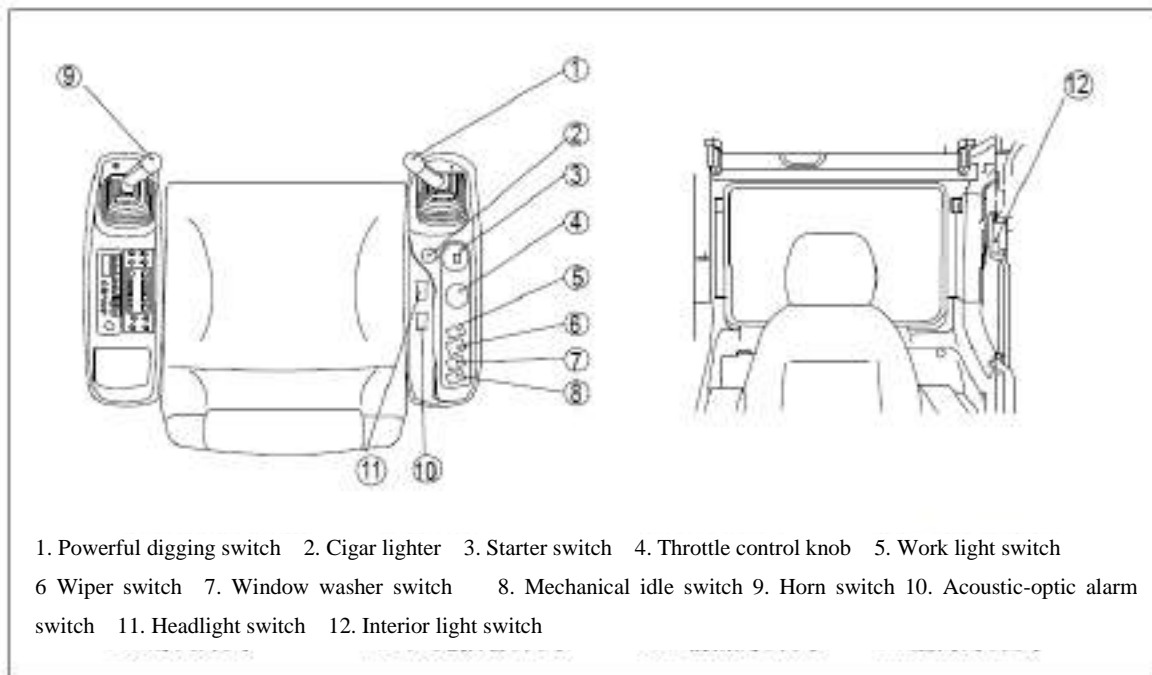
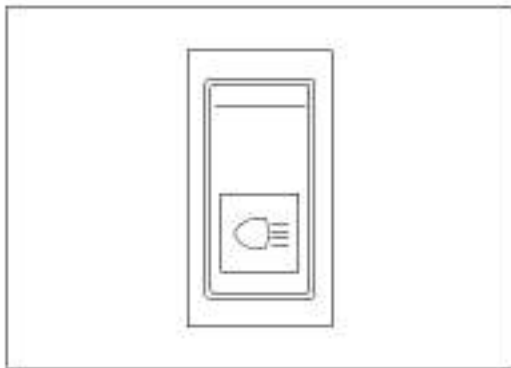
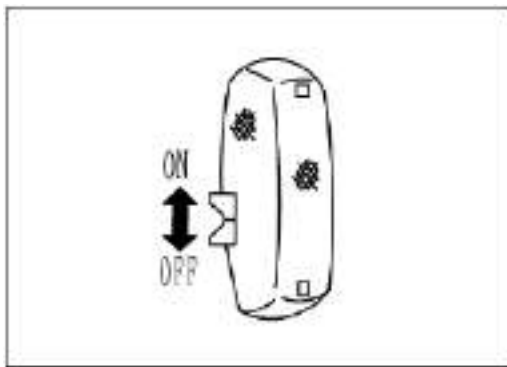

Figure 3-70 Switch location diagram
Figure 3-75 Work light switch
Figure 3-81 Interior light switch
Locations of switches are shown in Figure 3-70
The switch (5) shown in Figure 3-70 (5) is used to control the headlights and boom lights. The switch works at three positions:
Switch (10) shown in Figure3-70 is used to control the on-off of the sound and light alarm, as shown in Figure 3-80.
Switch (11) shown in Figure 3-70 is used to turn on the two headlamps, and the icon is corresponding to the work light, shown in Figure 3-75.
The switch (12) shown in Figure3-70 is used to open the interior lights. ON position: light on; OFF position: Light off. Please see Figure 3-81.